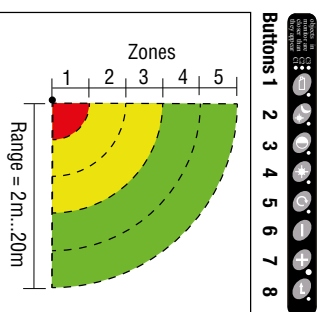

Figure 13
Set the range of detection. The range can be set from 20-200 decimeter, these are divided into 5 equally sized segments (see figure 13). The default detection range is 6m (60).